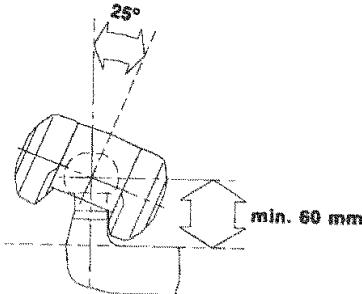

Fig. 20
- Not suitable for use with overrun devices which can revolve above 25 (Fig. 20).
- Swan Neck towbars (fixed or detachable) are suitable for use with the AKS 3004 providing they comply to EC Directive 94/20 and have the required minimum 60 mm clearance, measured from the centre of the towball (Fig. 20).